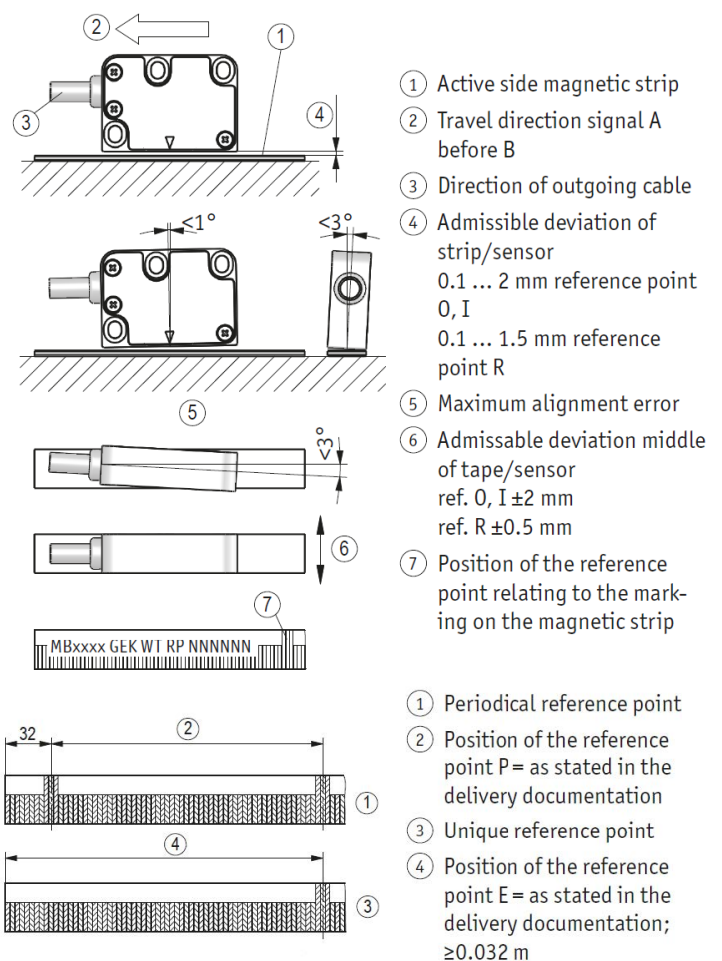

Fig 6: Definition of counting direction / mounting / tolerances
- Observe the correct alignment with regard to the counting direction (fig. 6). This does not apply if the counting direction can be reversed in the electronic interpretation.
- The tolerance and gap measures must be observed over the whole measuring length (Fig.6).
- Tolerance for the gap between magnetic sensor and magnetic strip not observed over the total travel distance. Sensor touches strip (fig. 6).
- Sensor's active side not mounted towards the magnetic strip (see fig. 6). The active side is marked by the label "Bandseite" (strip side).
- Sensor has not been aligned according to fig. 6